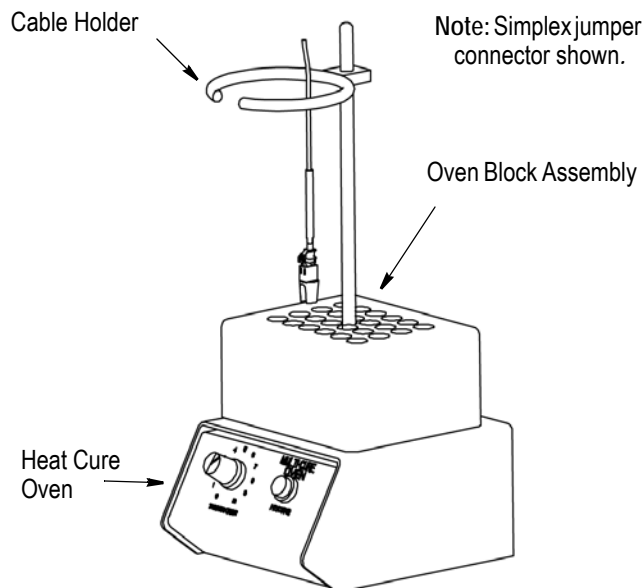

Figure 8
1. Place the connector subassembly (with attached cure protector) in the heat cure oven according to the instructions packaged with the oven. Refer to Figure 8. Cure the epoxy between 115° and 120°C [239° and 257°F] for a minimum of 15 minutes.
- Changed Figure 8 :